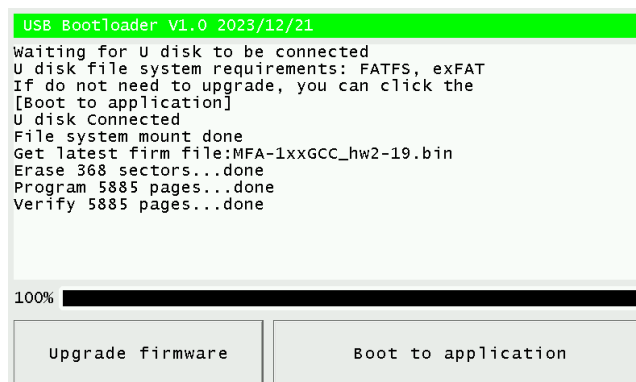

Figure 48
7. Once the progress bar reaches 100%, as shown in Figure 48, tap **Boot to Application** button to restart the device and launch the updated firmware. You may then remove the USB drive safely.